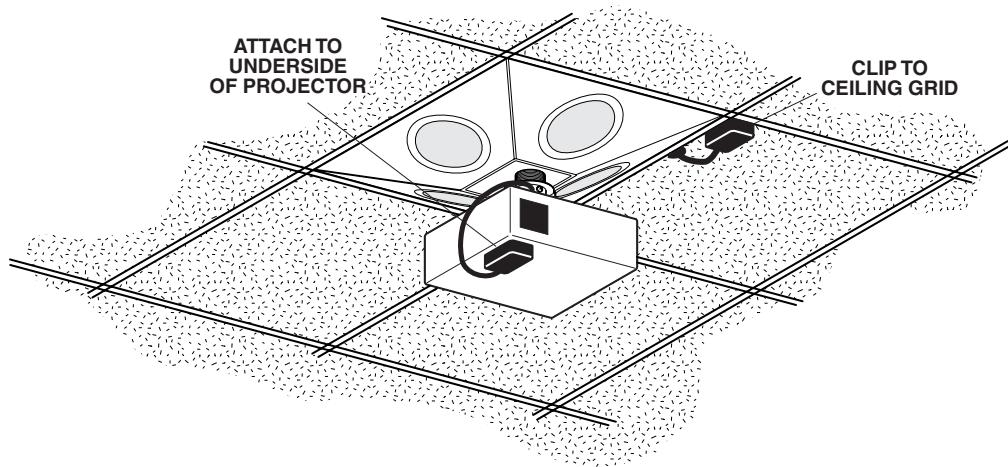

Figure 8 – IR Receiver Installation
- Determine the desired location for the IR receiver. The receiver should be positioned so the associated cable *will not* interfere with projector operation, and so that the receiver is *clearly visible* from the location from which the microphone will be used. See *Figure 8 – IR Receiver Installation* for possible placement options.